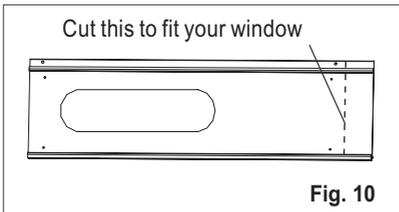

Fig. 10
- i** Cut the adjustable window slider kit if the width of window is less than 67.5cm (Fig. 10).
2. Open the window sash and place the window slider kit on the window stool (Fig. 15). Attach the window slider kit to the window frame. Adjust the length of the window slider kit according to the height of window. Screw down the two screws on the window slider kit. See Fig. 15. Cut the adjustable window slider kit if the height of window is less than 67.5cm (Fig. 10).